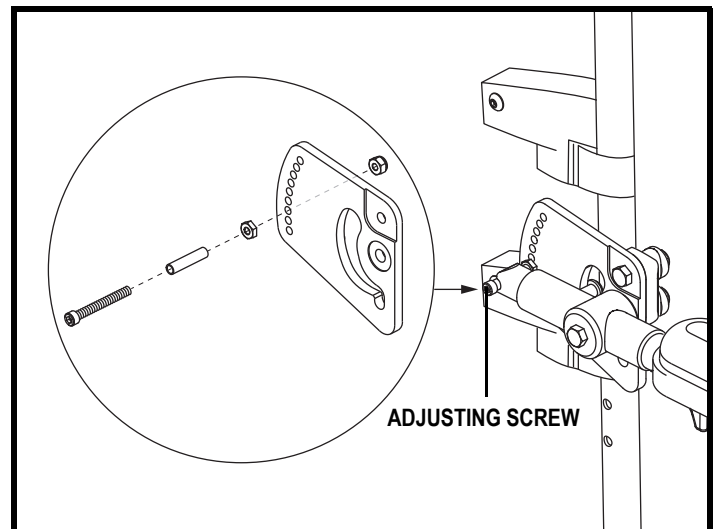

Figure 33. Locking Flip-up Armrest Angle Adjustment
2. Remove the adjusting screw. **See figure 33.**